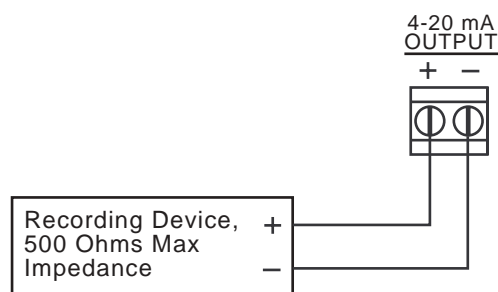

Figure 7: Recorder Output Wiring
6. Connect the leads from the recording device to the analog output terminal strip as shown in Figure 7 below.